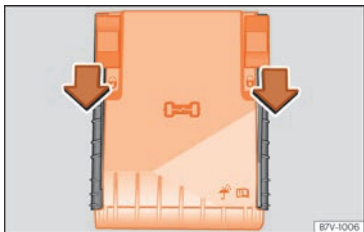

Fig. 62 In the engine compartment: lid of the fuse box.
- Move the attachment tabs forwards, in the direction indicated by the arrow to release the fuse box cover »» Fig. 62.